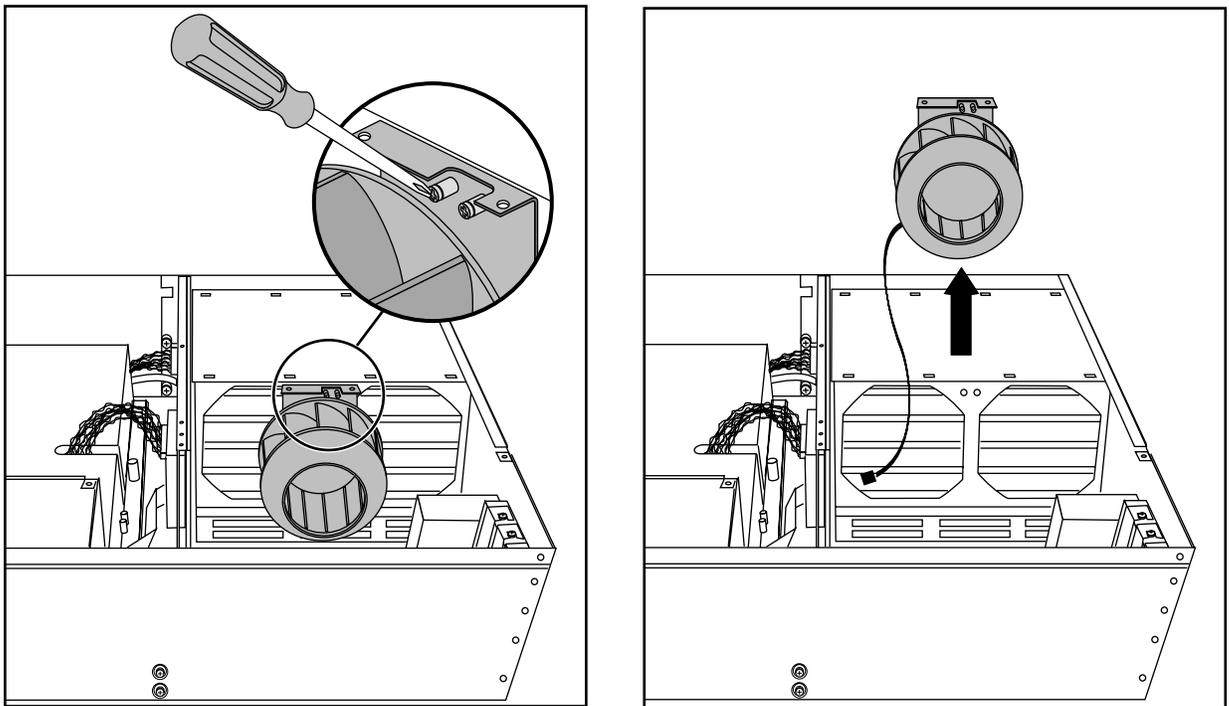

Figure 5-25 Removing the Blower from the GIGAchannel Cabinet
- The best way to undo the captive fasteners with a straight-shank screwdriver is to hold the screwdriver at an angle (as shown in Figure 5-25), and carefully turn the captive screws in small increments, counterclockwise.
- Lift the entire blower assembly out of the GIGAchannel, as shown in Figure 5-25.